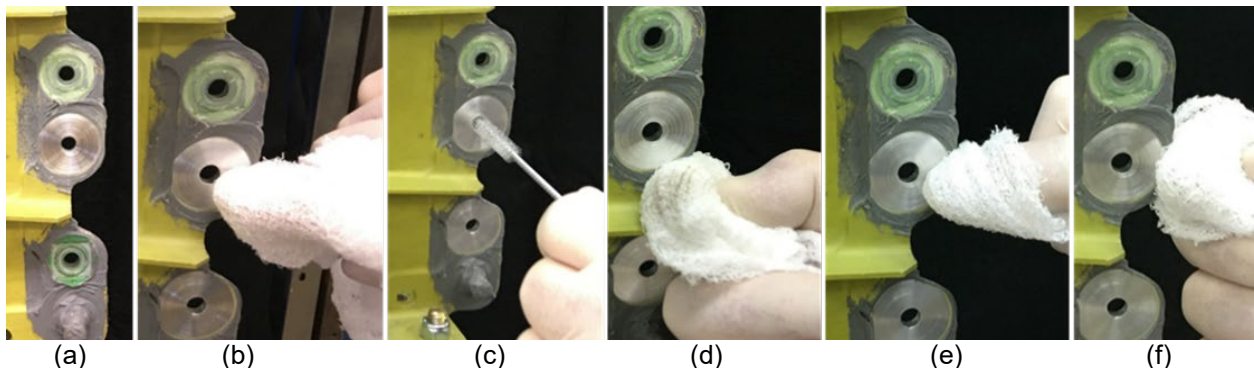
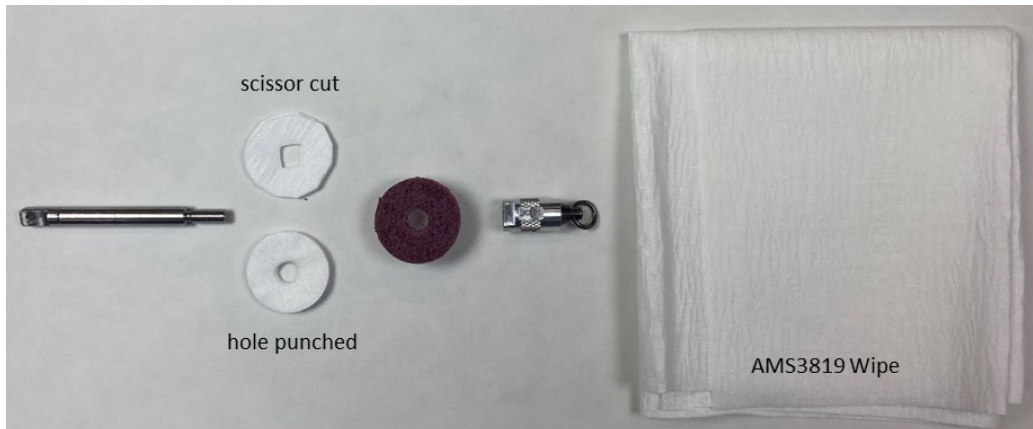
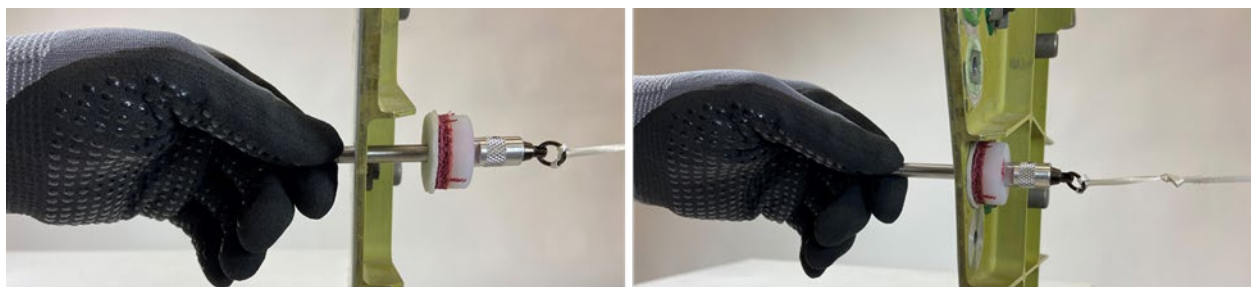

Figure 22. Cleaning Abraded Area
Figure 23. Fabrication of Limited Access Wipes
Figure 24. Cleaning the Abraded Surface for Limited Access Areas
- v. Clean the surface using DYSOL solvent DS-104 or DS-108 saturated AMS 3819 cloth (Fig 22(b)). Note: if in a limited access area (when fishing of the tools is required), fabrication of unique wipers will be necessary (Fig 23) to follow the process below (bottle brushes will not be used in a fish through scenario).
- vi. Clean the inside of the hole with DYSOL solvent DS-104 or DS-108 soaked bottle brush (Fig 22 (c)). This can reduce the number of wipes required to obtain a clean surface. Note: utilize one bottle brush per task.
- vii. Wipe the surface clean using DYSOL solvent DS-104 or DS-108 saturated AMS 3819 cloth (Fig 22(d))
- viii. While the surface is still wet with solvent, wipe the surface dry with a dry AMS 3819 (Fig 22(e))
- ix. Check that the cloth is visibly clean (Fig 22(f)). If not, repeat sub-steps “vii” and “viii” until the wiper comes away clean.
- vi. Clean the surface using DYSOL solvent DS-104 or DS-108 saturated AMS 3819 cloth (Fig 22(b))
- vii. Clean the inside of the hole with DYSOL solvent DS-104 or DS-108 soaked bottle brush (Fig 22(c))
- viii. Wipe the surface clean using DYSOL solvent DS-104 or DS-108 saturated AMS 3819 cloth (Fig 22(d))
- ix. While the surface is still wet with solvent, wipe the surface dry with a dry AMS 3819 (Fig 22(e))
- x. Check that the cloth is visibly clean (Fig 22(f)). If not, repeat sub-steps "viii" and "ix" until the wiper comes away clean.
- v. Clean the surface using DYSOL solvent DS-104 or DS-108 saturated AMS 3819 cloth (process is the same as previously described in Section 3.2.1 (Fig. 22) for metallic structure). If in a limited access area (when fishing of the tools is required), fabrication of unique wipers will be necessary (Fig 23) to follow the process depicted in Fig 24 (bottle brushes will not be used in a fish through scenario).
- vi. Clean the inside of the hole with DYSOL solvent DS-104 or DS-108 soaked bottle brush (Fig 22(c)). This can reduce the number of wipes required to obtain a clean surface. Note: Utilize one bottle brush per task.